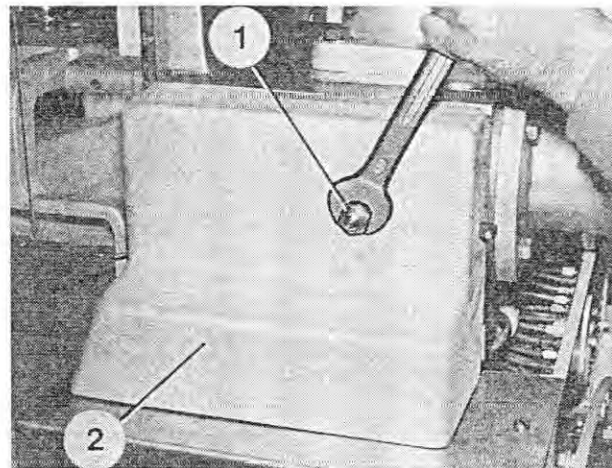

Fig. 176
4. Loosen the hex nut (Figure 176/1) which keeps the protective hood (Figure 176/2) in position. Remove the protective hood.